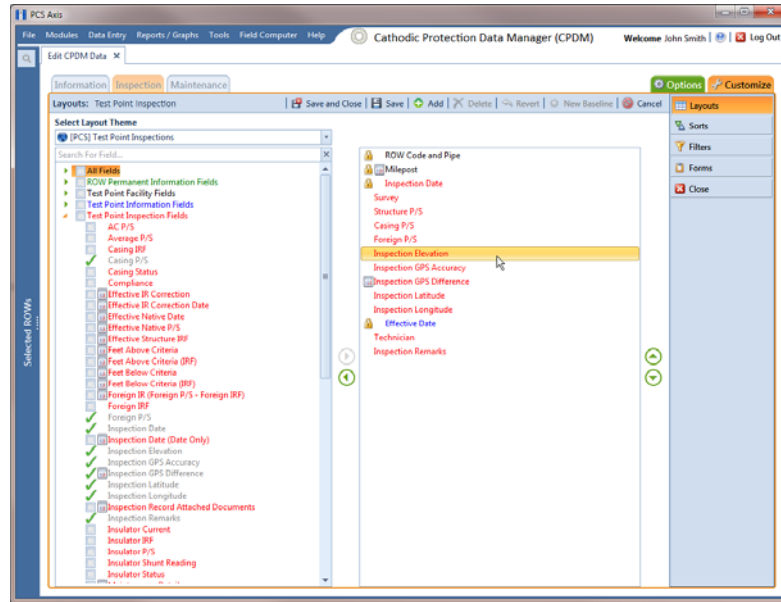

Figure 8-28. Layouts
- 3 Click the **Customize** tab  to view the *Layouts* page (Figure 8-28, page 377).